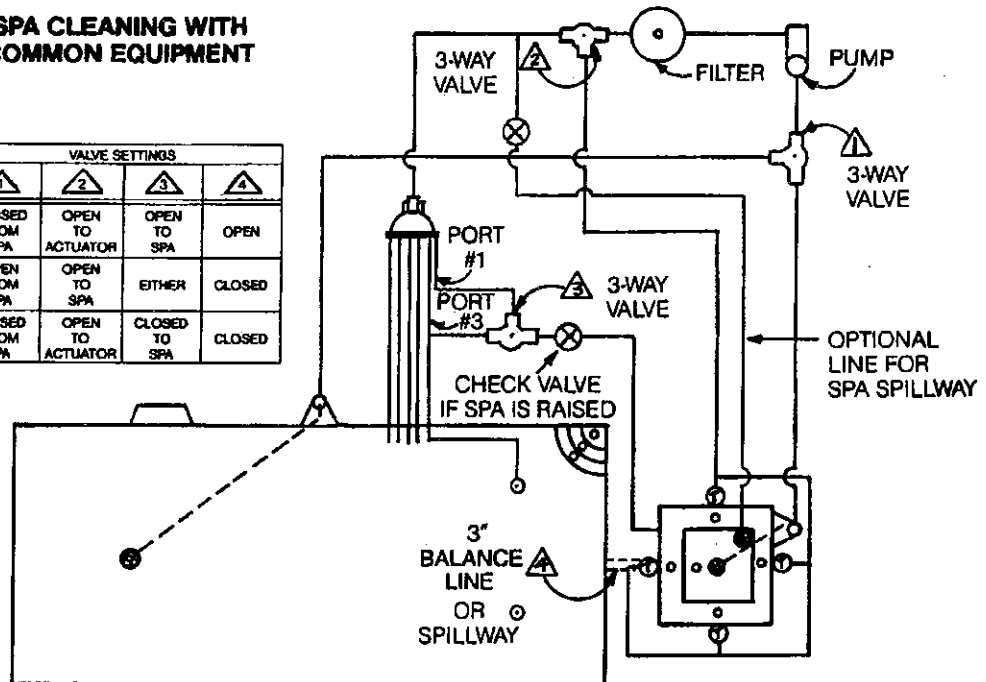

Figure 14-1
2. If the spa shares common equipment with the pool, see Figure 14-1 for the method of plumbing the A&A System in the spa.